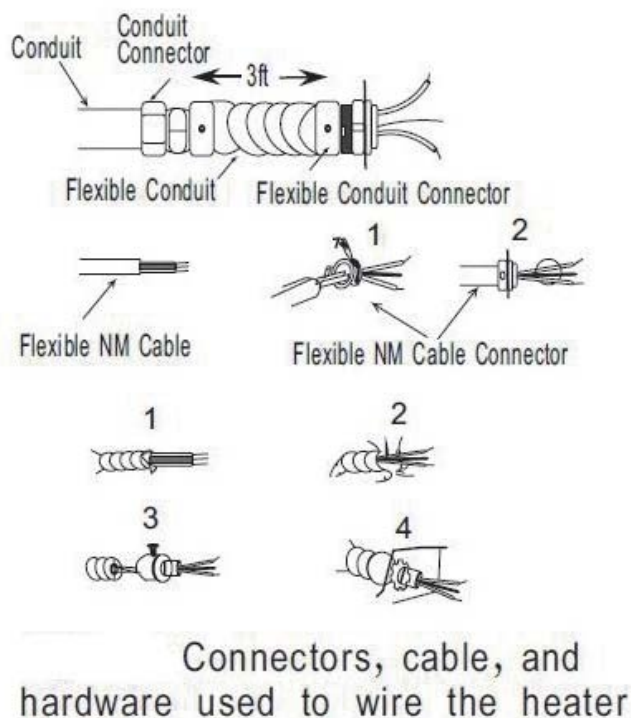

Figure 15
2. Attach the cable connectors to the unit (See Figure 15) and slide the 8 (100E) or 6 (150E) -gauge wire through the cable connector.